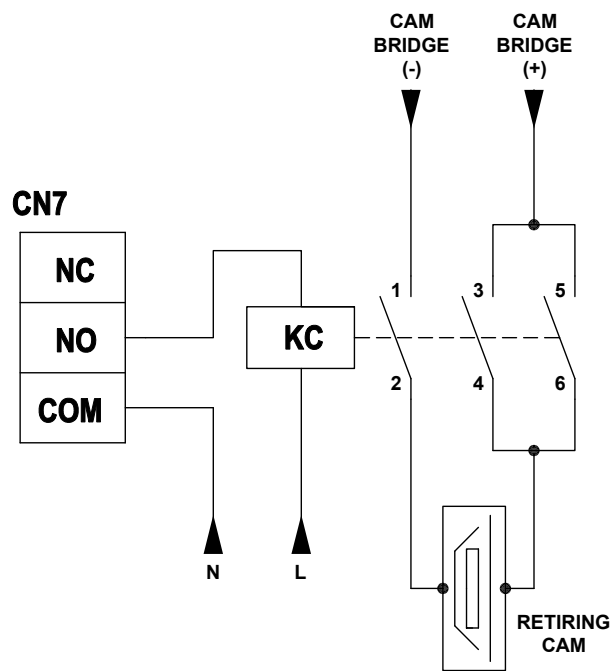

Figure 9.0 - Manual Door Connections
The Manual Door operating terminals are wired and connected as illustrated in Figure 9.0.
- For Manual Doors operating through a Retiring CAM, the external CAM contactor is connected to the XC-12 series as illustrated in Figure 9.0.
- The Retiring CAM is operated by the DC voltage of the external bridge through the contactor as illustrated in Figure 9.0.